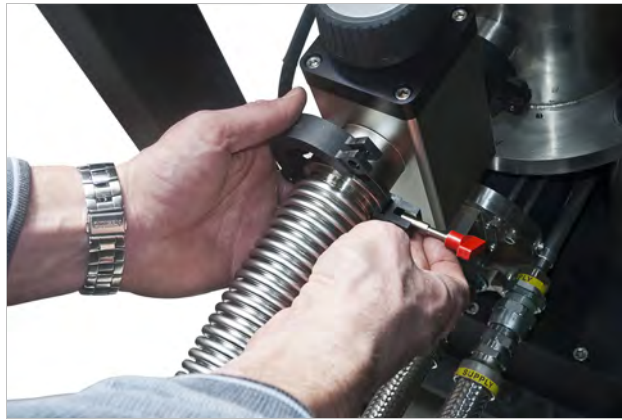

FIGURE 3-29 Use the clamp provided to attach the vacuum line to the CRX-VF probe station
5. Attach the other end of the vacuum line to the vacuum isolation valve on the probe station (FIGURE 3-29).